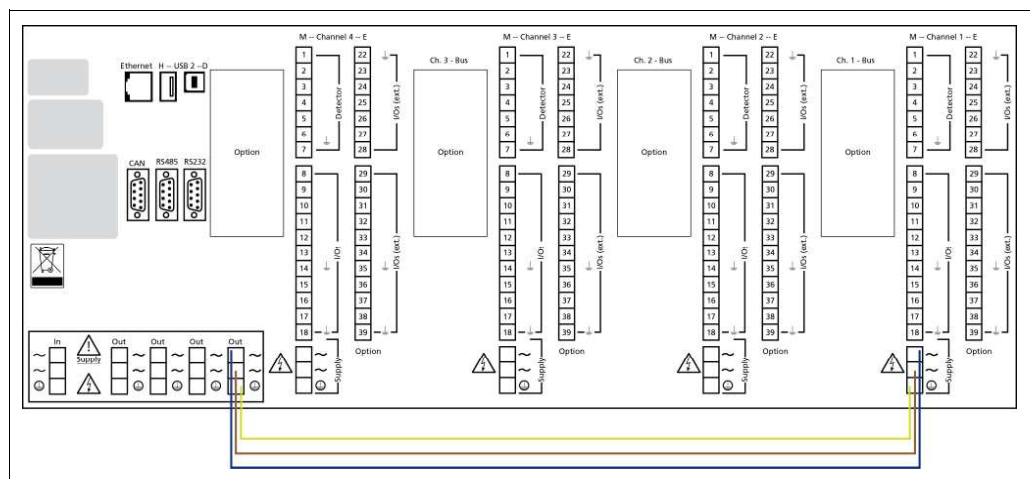
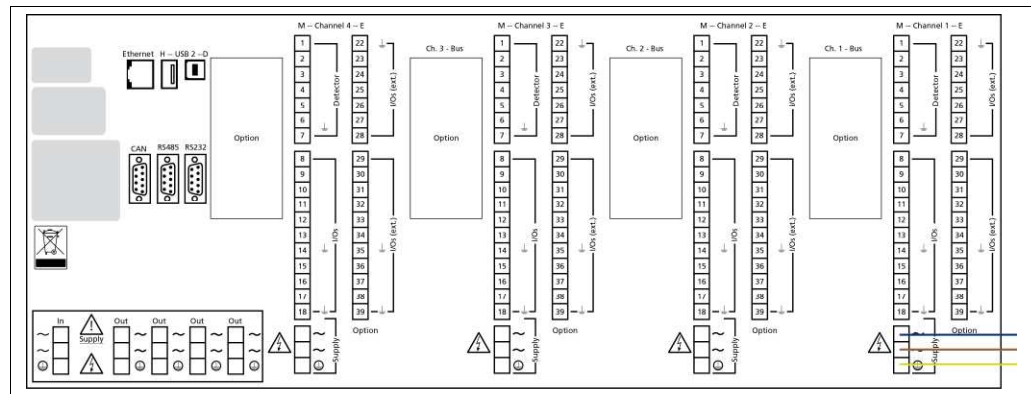

Fig. 6 Internal Power Supply of the Measurement Channel via the EVU, Measurement Channel 1 as Example
Fig. 7 External Power Supply of the Measurement Channel, Measurement Channel 1 as Example
3. Connect the power supply (Out) with the corresponding channel (Fig. 6) or connect the individual measurement channels with an external power supply (recommended) (Fig. 7).